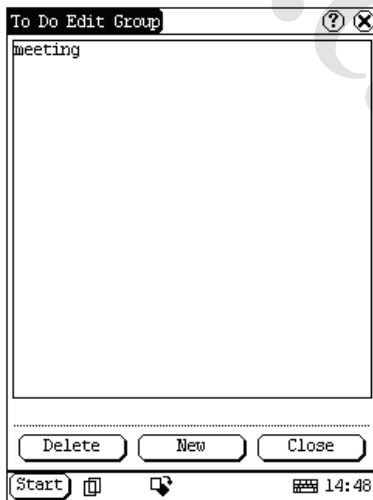

Figure 4-29
- 2) In the type list, select 'Edit Group' to open the Edit Group interface. See Figure 4-29.